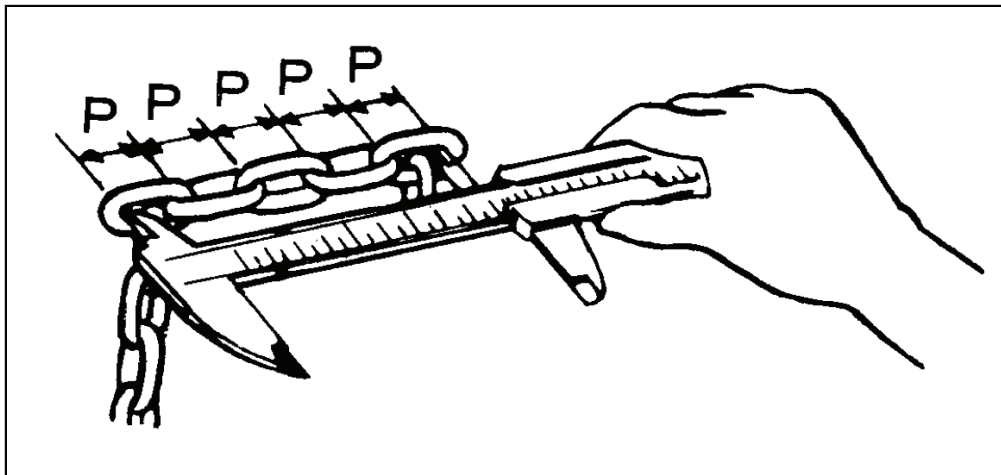

Fig 5 Checking load chain dimensions
**Checks on load chain** (see Fig. 5 and Table 2)